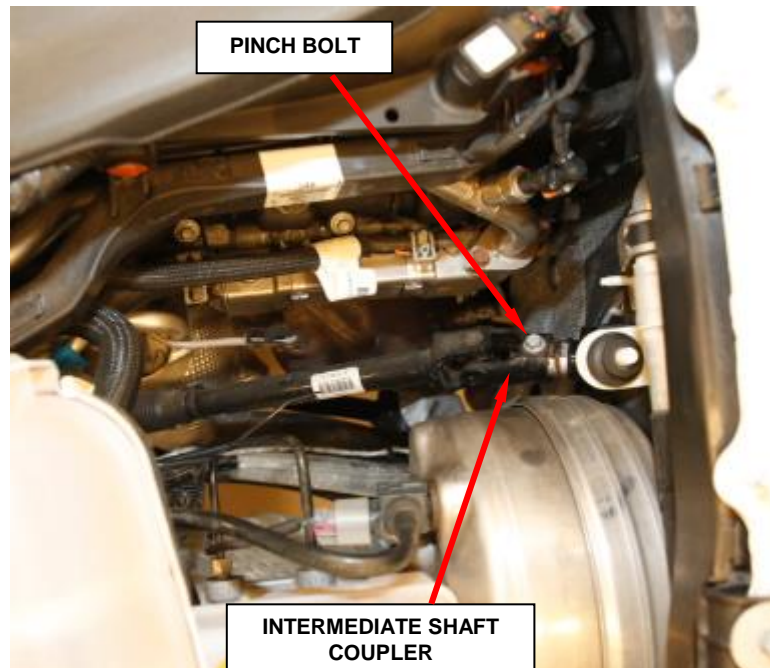

Figure 6 - Intermediate Shaft to Steering Column Pinch Bolt Location
5. Remove and **DISCARD** the intermediate shaft coupler pinch bolt from the steering column end of the shaft (Figure 6).